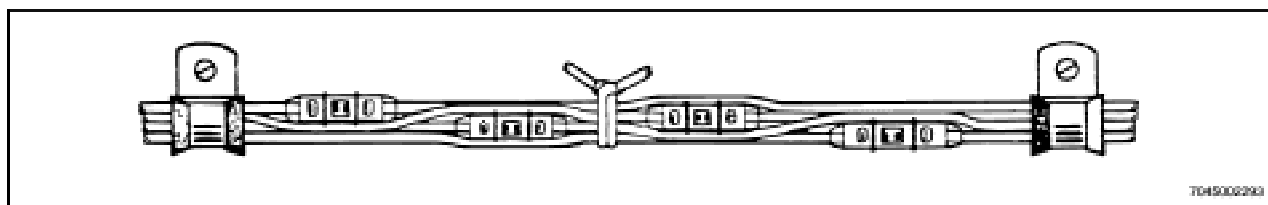

Figure 4-2 Staggered Splices in Wire Bundles
11. Locate spliced connections in wire groups or bundles so that they can be inspected. Stagger splices as shown in Figure 4-2 so that the bundle does not become excessively enlarged. Ensure that all non-insulated splices are covered by shrinkable tubing or by plastic sleeves securely tied at both ends. Splices are subject to the restrictions of SAE AS50881. Splices are subject to the following restrictions: